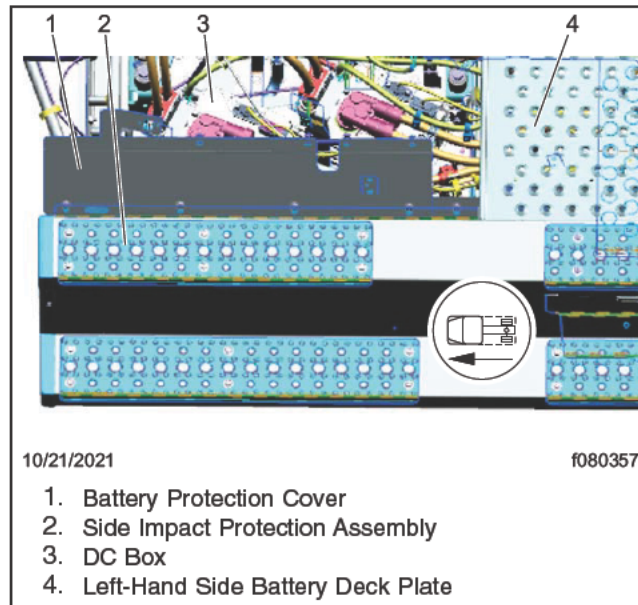

Fig. 1, Removal of Battery Protection Cover
4. Remove the left-hand side battery deck plate. See **Fig. 1**. For instructions, see **Section 31.05** of the *eCascadia Workshop Manual*.
5. Remove the left-hand side battery protection cover that is attached to the side impact protection assembly. See **Fig. 1**.